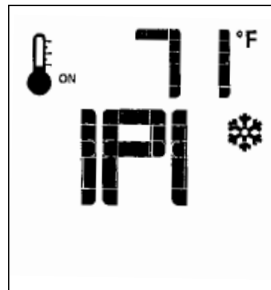
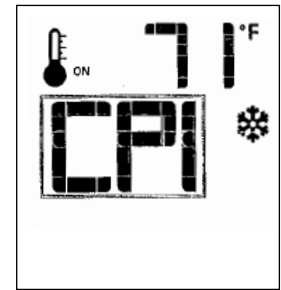

Figure 16.6. IPI is the default position.
Figure 16.7. CPI ON.
- With the transmitter in the OFF position, press the transmitter Mode key - IPI is the default mode. Fig. 16.6. Press the Up arrow to index to the CPI icon and activate the Continuous Pilot Ignition mode. Fig. 16.7. Pressing the Down Arrow Key will return to Intermittent Pilot Ignition. A single “beep” will confirm reception of the command.